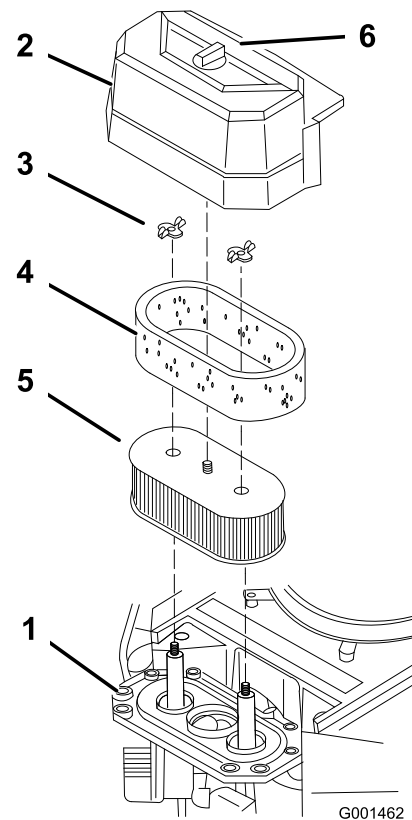

Figure 28
3. Clean around the air cleaner to prevent dirt from getting into the engine and causing damage (Figure 28).
4. Unscrew the cover knob and remove the air cleaner cover (Figure 28).
5. Remove the 2 wing nuts and remove the air cleaner assembly (Figure 28).
6. Carefully pull the foam element off the paper element (Figure 28).
1. Do not clean the paper filter, replace it.(Figure 28).
1. Carefully slide the foam element onto the paper air cleaner element (Figure 28).
2. Place the air cleaner assembly onto the air cleaner base and secure it with the 2 wing nuts (Figure 28).
3. Place the air cleaner cover into position and tighten the cover knob (Figure 28).